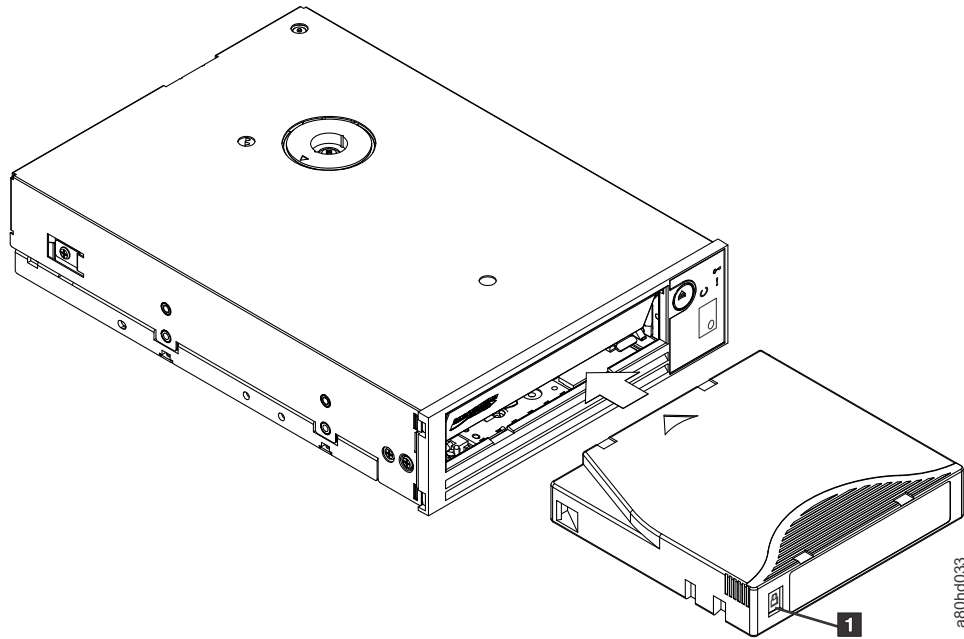

Figure 3-5. Loading
4. Slide the cartridge into the tape load compartment (see Figure 3-5 on page 3-4). The tape drive automatically loads the cartridge.